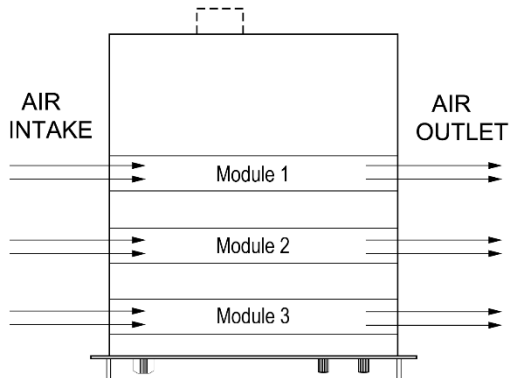

Figure 11.1: The fans are located at the left side and blow through the unit.
- The airflow direction is from left to right, see Figure 11.1.